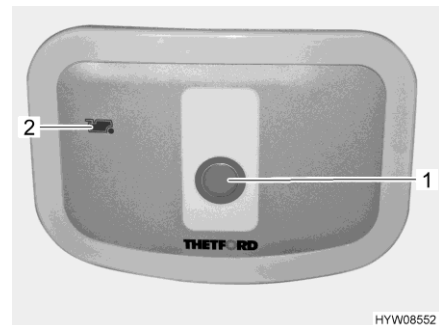

Fig. 167 Flush button/indicator lamp (Thetford toilet)
- For flushing, press the blue flush button (Fig. 167,1).
The indicator lamp (Fig. 167,2) lights up whenever the sewage tank has to be emptied.